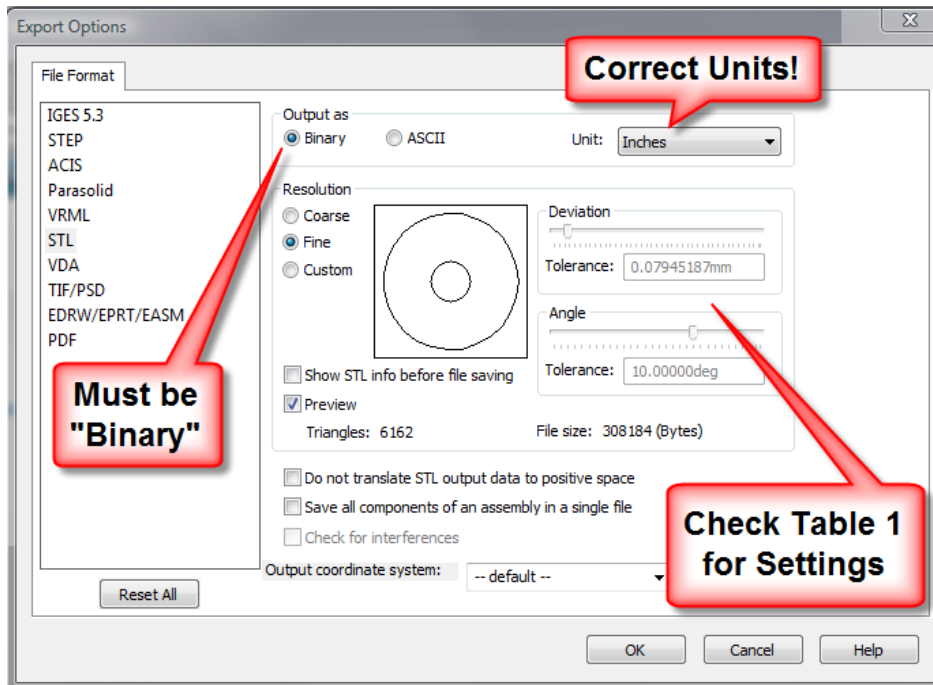

Figure 3
6. Figure 3: In the **Export Options** window, make sure **Units** and resolution settings are properly selected